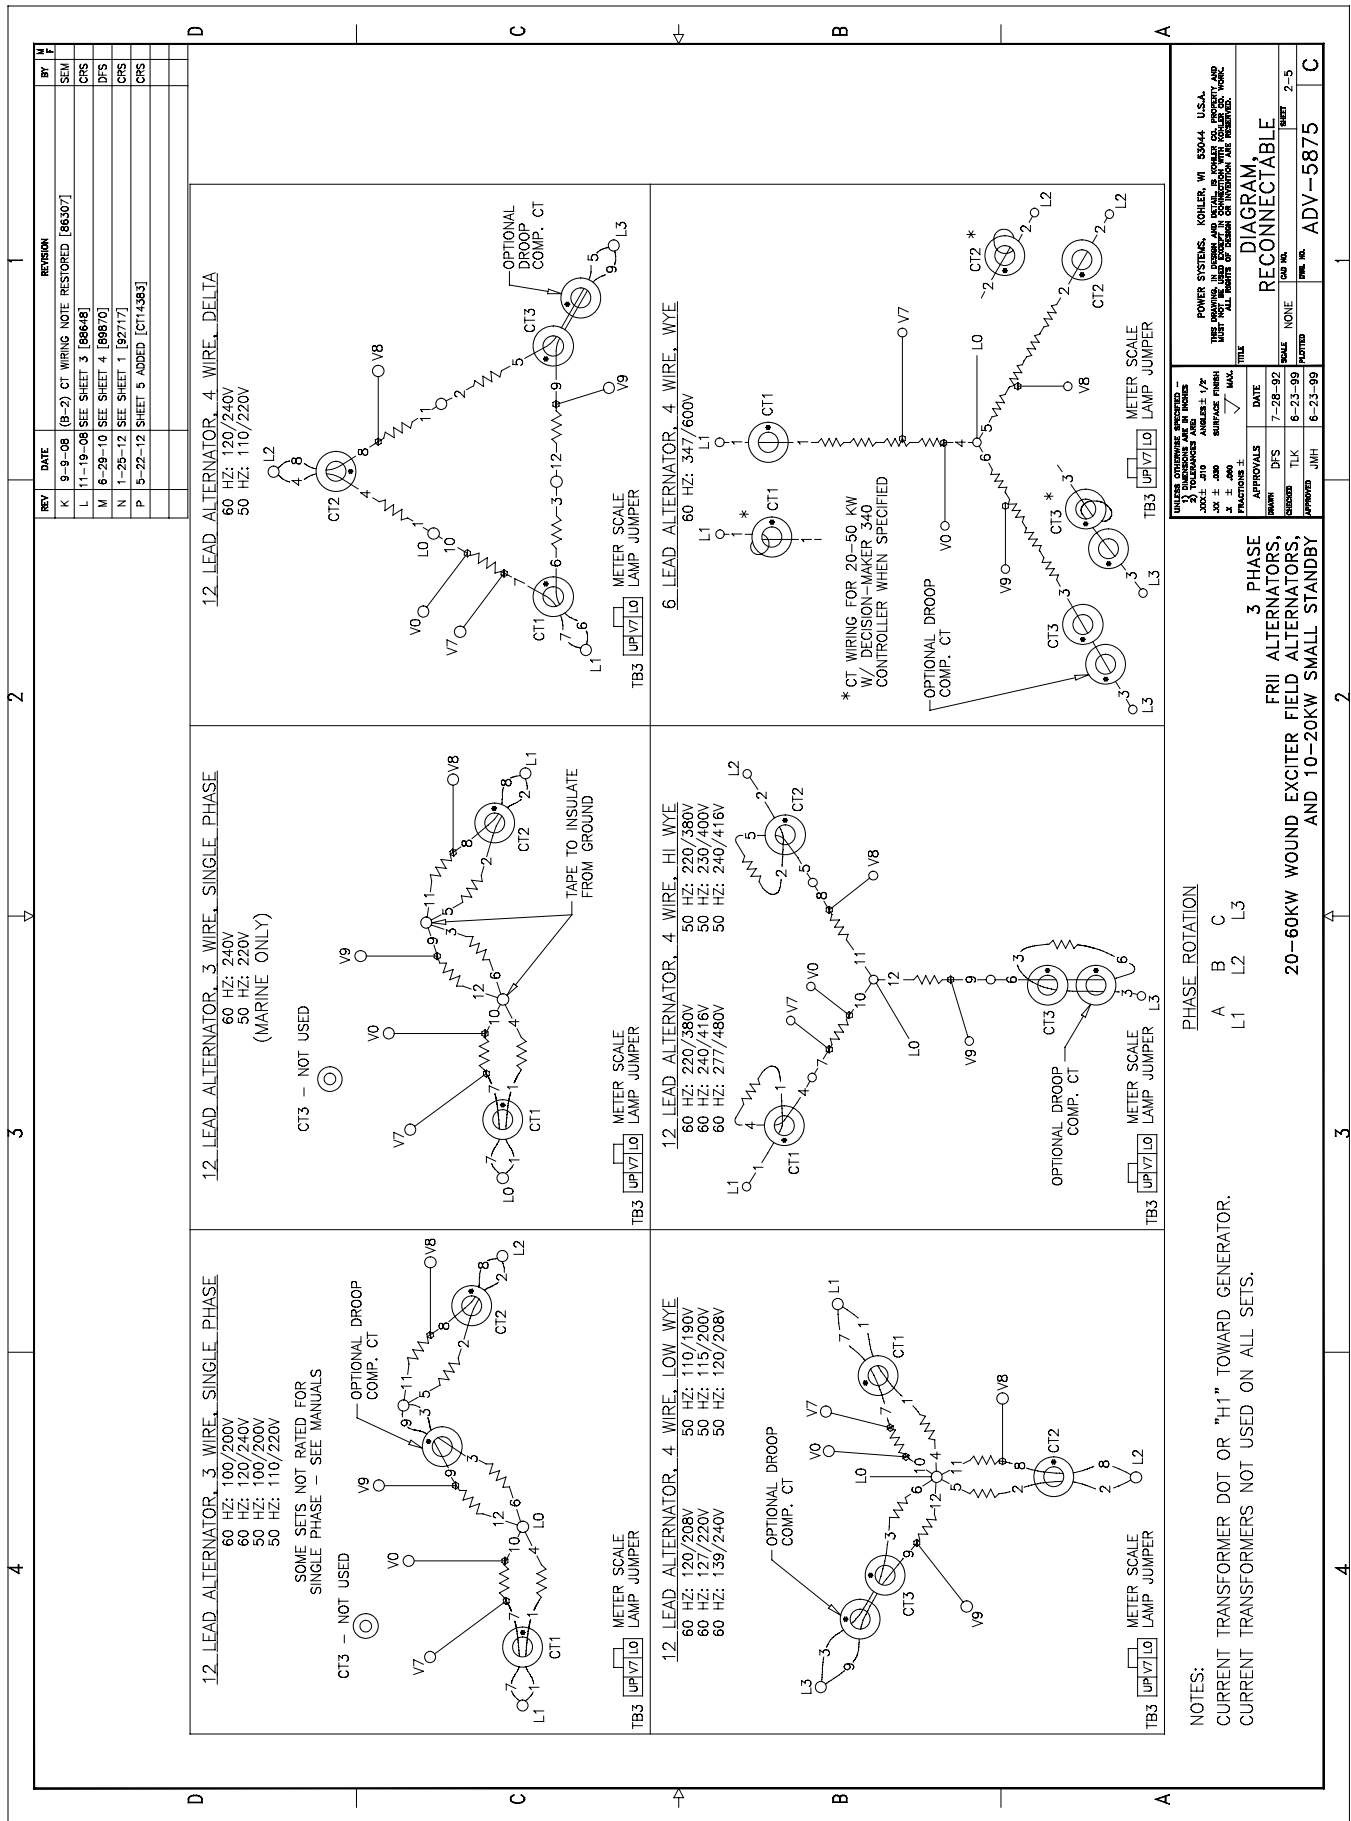

Figure 5-2 20-400 kW Permanent Magnet and 20-60 kW Wound Field Alternators, ADV-5875B-P
3. Use Figure 5-1, Figure 5-2, Figure 5-3, or Figure 5-4 to determine the generator set voltage configuration. Note the original voltage and reconnect as needed. Route leads through current transformers (CTs) and connect them according to the diagram for the desired phase and voltage.